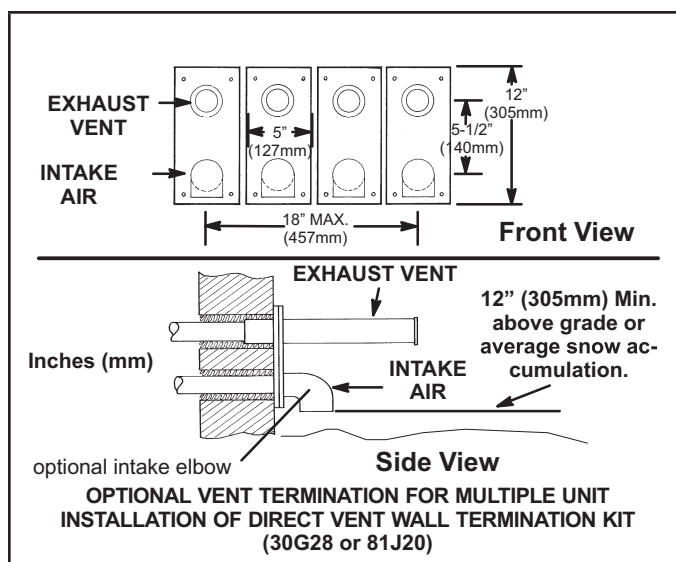

FIGURE 33
- 8 - Based on the recommendation of the manufacturer, a multiple-furnace installation may use a group of up to four terminations assembled together horizontally, as shown in FIGURE 33.